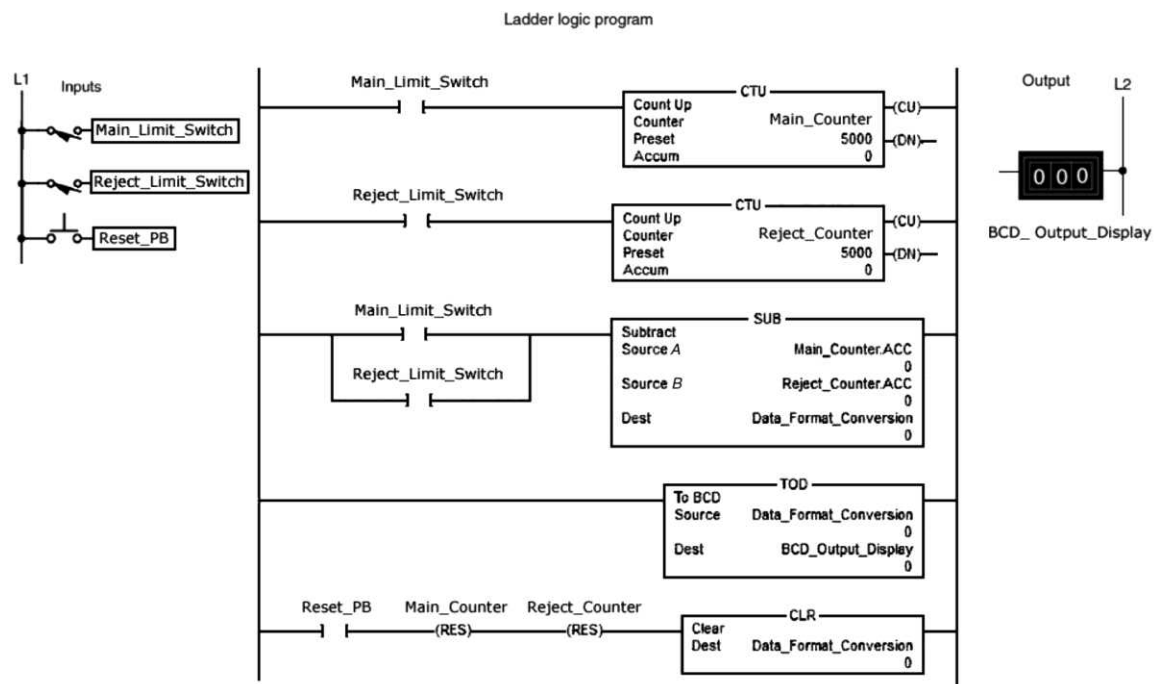

Figure 11-34 Pass/fail program for assignment 14.
14) The pass/fail parts count program, shown in Figure 11-34, is used to display the number of parts on a conveyor line that pass inspection. Its operation is summarized as follows: